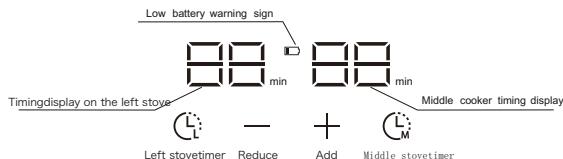

Figure 7
2) The display screen contains 4 "8" digital marks, low battery reminder mark, "left cooker timer" key, "middle cooker timer" key, "decrease-" key and "increase +" key (see Figure 7).